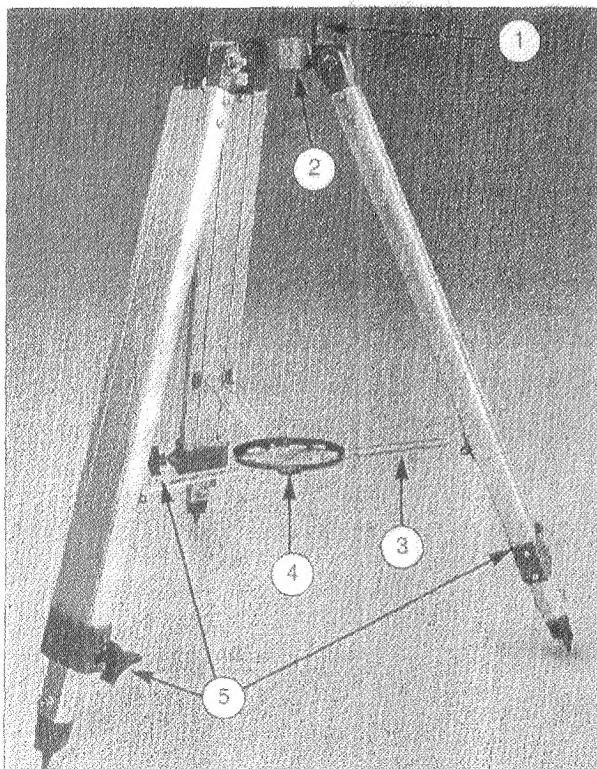

Fig. 2: LXD 500 Tripod. (1) Azimuth Tangent Arm; (2) Tripod Head; (3) Extension Strut; (4) Accessory Tray; (5) Height Adjustment Knob
The LXD 500 Tripod (Fig. 2) is shipped virtually completely assembled from the factory. Once set up, all that is required of an observer is to attach the accessory tray and adjust the tripod to the desired observing height.
Remove the tripod from the shipping box and stand the tripod vertically with the tripod feet down. Grasp two of the tripod legs and with the full weight of the tripod on the third leg, gently pull the legs apart to the fully open position (Fig. 2).
Remove the round accessory tray (4), Fig. 2, from the shipping box.
Loosen the black, star-shaped height adjustment knob (5), Fig. 2, at the base of each tripod leg.
Firmly tighten (but do not overtighten) the three height adjustment knobs (5), Fig. 2.
Remove the accessory tray (4), Fig. 2. Grasp the tripod head (2), Fig. 2, with one hand. With the other hand, pull directly up on the central hub of the extension strut, where the accessory tray (4), Fig. 2, was attached. This action will cause the tripod legs to move inward to a collapsed position.